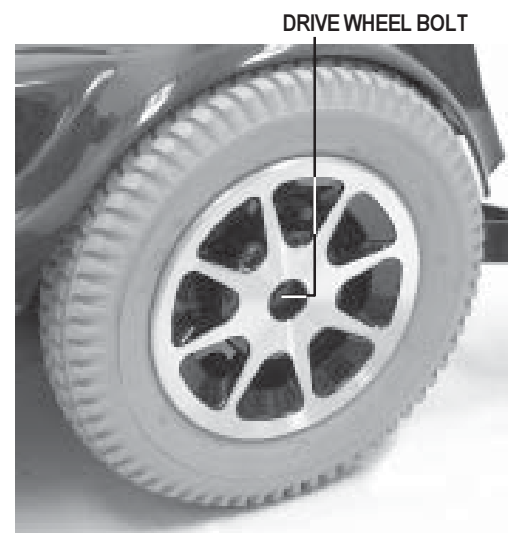

Figure 34. Drive Wheel
2. Use a 3/4-in. wrench to remove the drive wheel bolt from the center hub of the wheel. See figure 34.